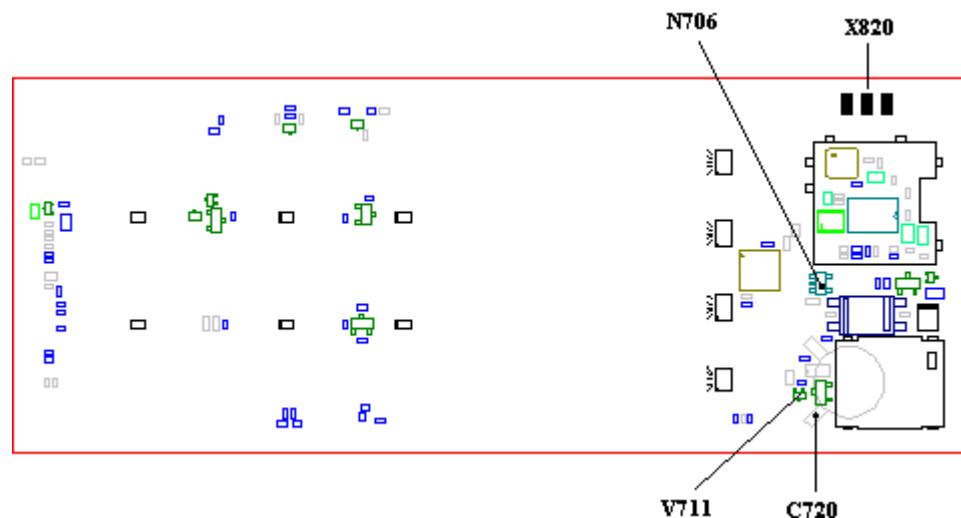

Fig. 3.5
- If the phone consumes ~60mA (average, varies), the battery indicator blinks once or twice and then the phone turns itself off, then it's probably X820 (the pads to the volume flex film, fig. 3.5) or the volume flex film (J820) that is shorted out. Replace the flex film and if that doesn't work, proceed to section 3.2.
- * If there is voltage, check the resistance from the positive side of C720 (fig. 3.5) to C692 (~0 ohms).